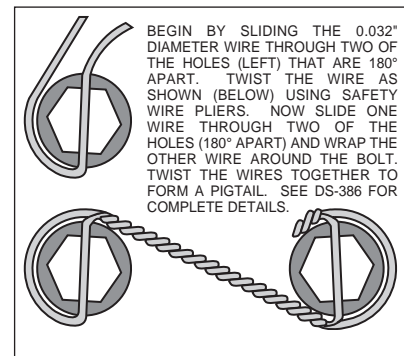

Figure 3. Safety Wire Diagram
- The caliper mount bracket assembly (1) should be installed first with clean, dry threads on the mounting bolts. Install the bracket (1) on the inboard side of the hub by sliding bolt (2) through washer (3). Place two shim washers (4) between the bracket (1) and the mounting ears. The bracket must tighten squarely against the inboard side of the caliper mounting ears on the upright. Inspect for interference from casting irregularities, machining ridges, burrs, etc. Later, after the caliper, pad, and rotor alignment has been checked, and any necessary shims have been put in place, the mounting bolts should be coated with red *Loctite*® 271 and torqued to 47 ft-lbs.
- With the larger I.D. side of the rotor (6) facing away from the hat (7), bolt rotor (6) to hat (7) through the backside of the rotor using washers (8) and bolts (9). Using an alternating sequence, apply red *Loctite*® 271 to the threads and torque bolts to 140 **in-lb**. For an added measure of security, the bolts may be safety wired using standard 0.032 inch diameter stainless steel safety wire as shown in Figure 3. Please refer to Wilwood's data sheet DS-386 for complete safety wire installation instructions.